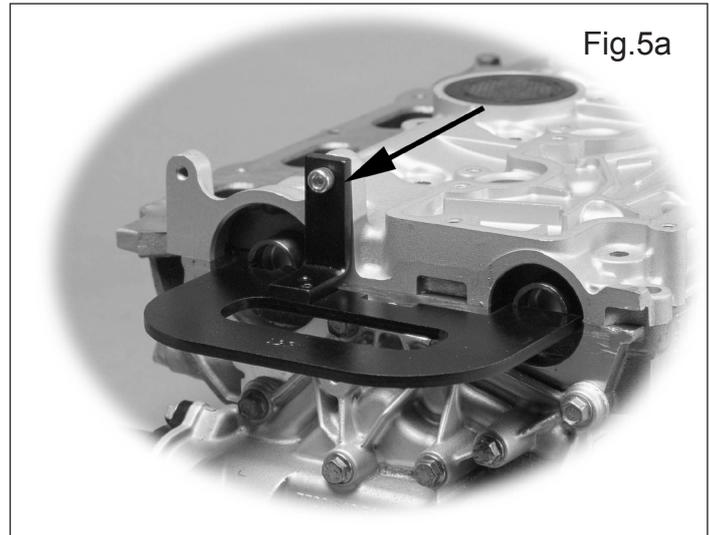
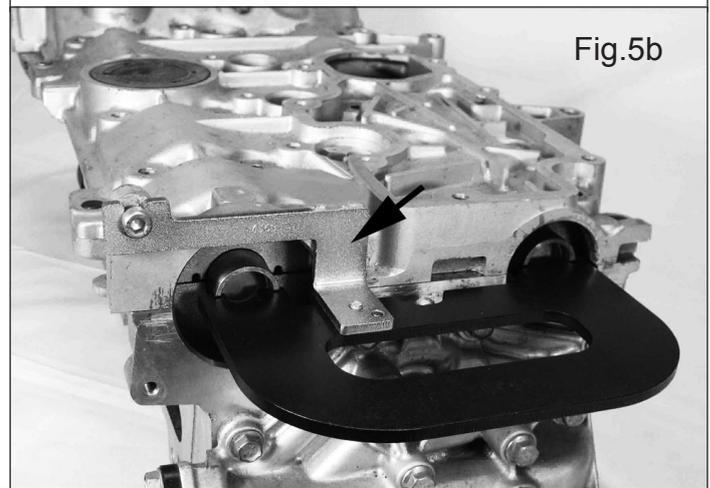

Fig.5a
Fig.5b
4.4.1 Construct the Camshaft Setting Plate Assembly by using the VS4561 Plate and attaching to it the appropriate Location Bracket – The Right-angled Bracket shown in (Fig.5a) or the Extended Bracket – shown in (Fig.5b).